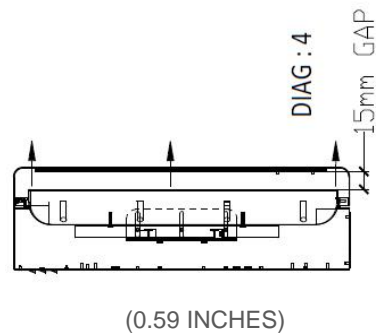

Figure 5
STEP 13: A gap of 15mm must exist between the air curtain and the enclosure window, any less and you risk insufficient cooling to keep the display working (Figure 5).